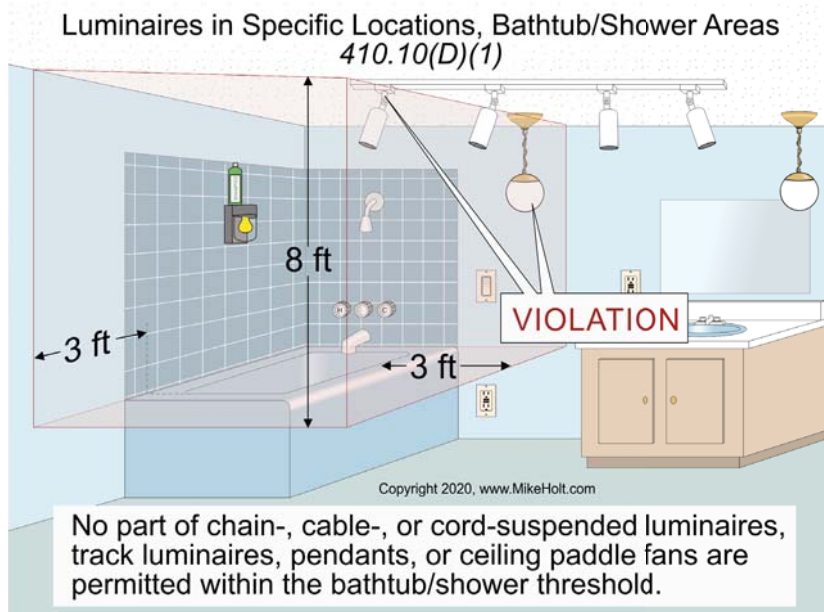

Fig. 1. NEC rules for luminaires installed in a bathtub/shower areas per Sec. 410.19(D)(1).
(1) No part of chain-, cable-, or cord-suspended luminaires, track luminaires, or ceiling paddle fans can be located within 3 ft horizontally and 8 ft vertically from the top of the bathtub rim or shower stall threshold (Fig. 1).